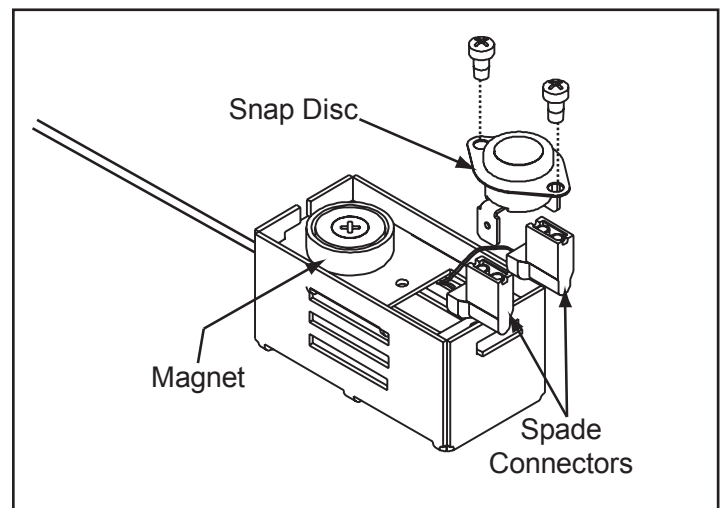

Figure 22.1
3. Pull the snap disc and spade connectors up and out of bracket as shown in **Figure 22.1**